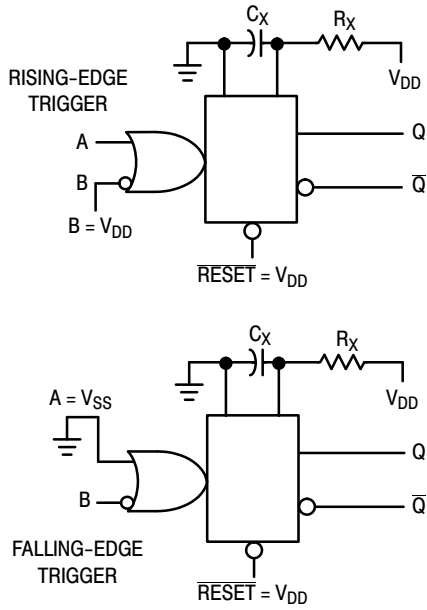

**Figure 11. Use of a Diode to Limit Power Down Current Surge**
5. If CX > 15 μF, use discharge protection diode per Fig. 11.
When a more rapid decrease of  $V_{DD}$  to zero volts occurs, the MC14538B can sustain damage. To avoid this possibility use an external clamping diode,  $D_X$ , connected as shown in Fig. 11.